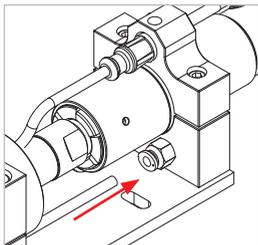

Figure 7
- ▶ Plug the purging line of the fueling nozzle into the coupling-side plug connection of the holding case (Pos. 11, *Figure 7*).